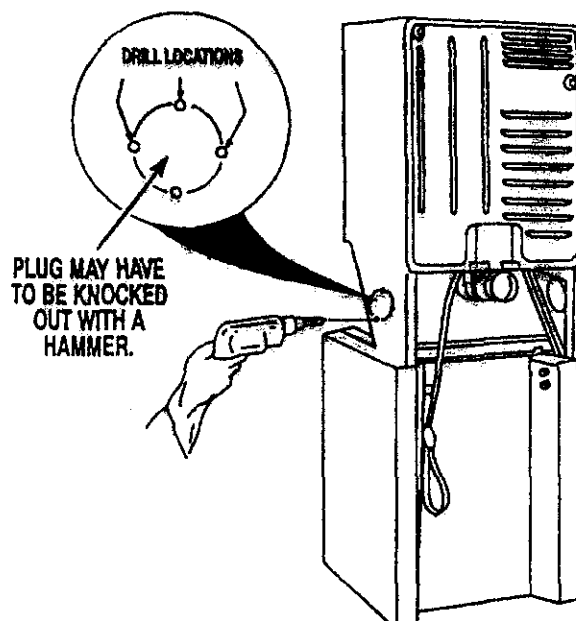

Fig. 6
1. Remove left or right side panel knockout by drilling four (4) $\frac{1}{4}$ " holes at the drill locations (dimples) shown and knock out plug. (Fig. 6) Use a file and remove the small burrs in the hole created after the knockout is removed.